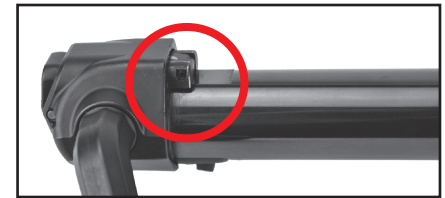

Figure 10
2. To take pressure off of the extraction plunger, rotate the **Bolt Handle** rearward slightly and depress the spring-loaded **Extraction Plunger** at the top of the bolt assembly with your thumb or any non-marring object – see Figure 10. Allow the **Bolt Handle** to slowly rotate forward. The bolt assembly is now uncocked.
2. To take pressure off of the extraction plunger, rotate the **Bolt Handle** rearward slightly and depress the spring-loaded **Extraction Plunger** at the top of the bolt assembly with your thumb or any non-marring object – see Figure 10 in section 2.5. Allow the **Bolt Handle** to slowly rotate forward. The bolt assembly is now uncocked.